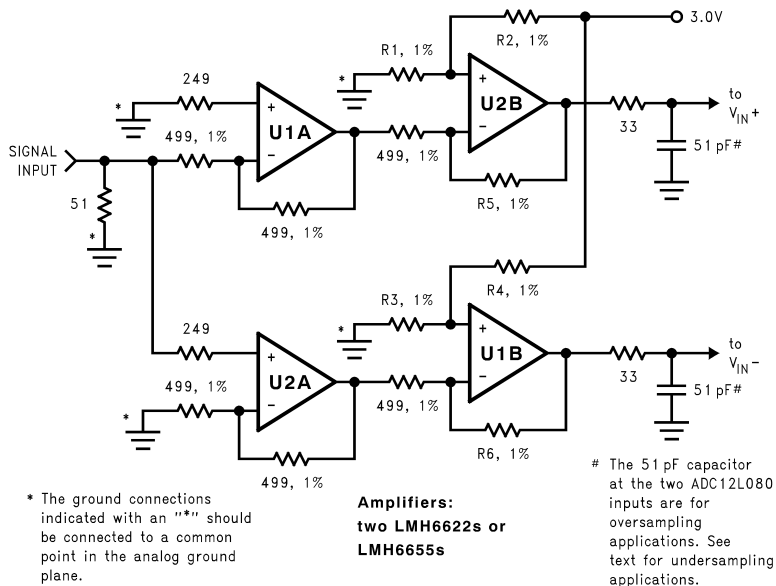

Figure 39. Differential Drive Circuit of Figure 38
The  $V_{IN+}$  and the  $V_{IN-}$  inputs of the ADC12L080 consist of an analog switch followed by a switched-capacitor amplifier. The internal switching action at the analog inputs causes energy to be output from the input pins. As the driving source tries to compensate for this, it adds noise to the signal. To minimize this, use 33Ω series resistors at each of the signal inputs with a 51 pF capacitor to ground, as can be seen in Figure 39 and Figure 40. These components should be placed close to the ADC because the input pins of the ADC is the most sensitive part of the system and this is the last opportunity to filter the input. The 51 pF capacitor value is for Nyquist applications and should be replaced with a smaller capacitor for undersampling applications. The resulting pole should be at 1.7 to 2.0 times the highest input frequency. When determining this capacitor value, take into consideration the 8 pF ADC input capacitance.
Table 3 gives component values for Figure 39 to convert a signals to a range 1.0V ±0.5V at each of the differential input pins of the ADC12L080.
**Table 3. Resistor values for Circuit of Figure 39**
If the amplifier exhibits overshoot, ringing, or any evidence of instability, even at a very low level, it will degrade performance. A small series resistor at each amplifier output and a capacitor at each of the ADC analog inputs to ground (as shown in Figure 39 and Figure 40) will improve performance. The LMH6702, LMH6628, LMH6622 and LMH6655 have been successfully used to drive the analog inputs of the ADC12L080.